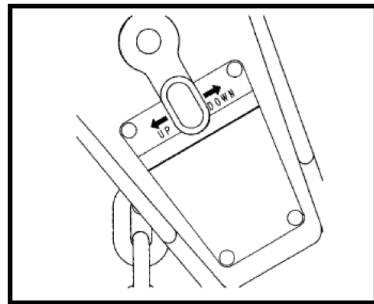

FIG 6
- Always keep your hoist clean and store in a clean, dry location. Place the selector switch on the handle in the center neutral position (FIG 6). This will allow free-wheel mode. Take up slack by pulling on loose or free end of chain.